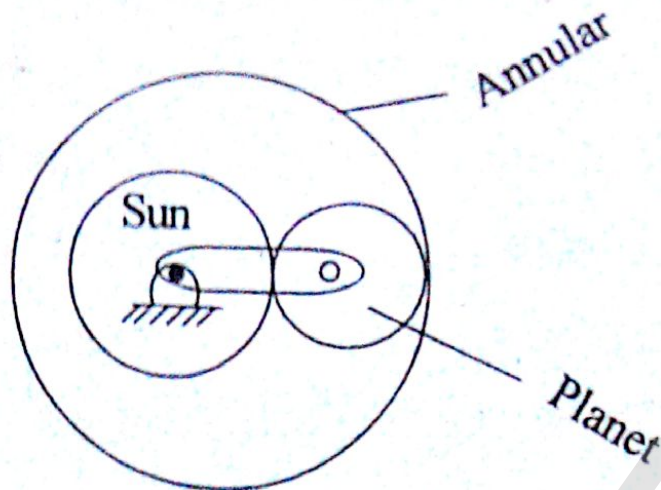

Fig. 8.1
- (b) For the epicyclic gear train shown in Fig. 8.1, determine the speed of annular (72 T) if the arm rotates at 300 rpm CW and the sun (36 T) is fixed. The planet (18 T) mounted on arm and meshes